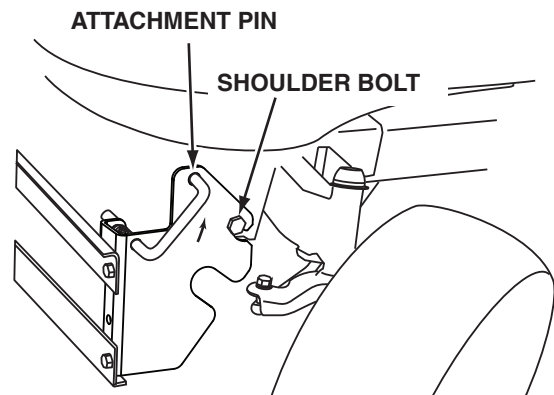

Figure 7
- Pull out on the attachment pins on the hitch assembly and swing the top of the pins down away from the holes they were in. See figure 7.
- Hook the hitch assembly onto the shoulder bolts in the sides of the tractor frame. See figure 7.
- Align the holes in the hitch assembly with the holes in the tractor frame. Insert the attachment pins to lock the hitch assembly in place. See figure 7.